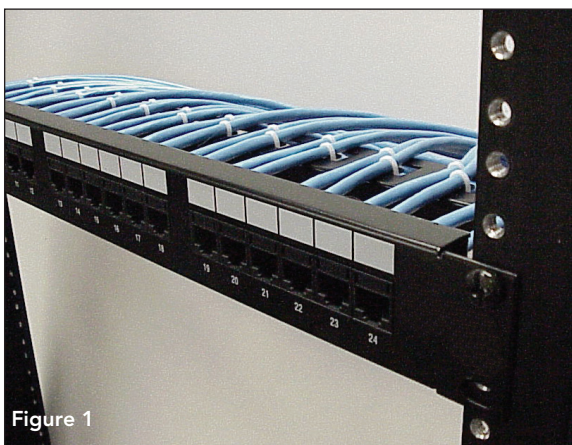

Figure 1
- 4.1 Line up the holes at the corners of the panel with the corresponding mounting holes of the EIA compliant rack. Secure the panel with the four (4) screws provided. See Figure 1.